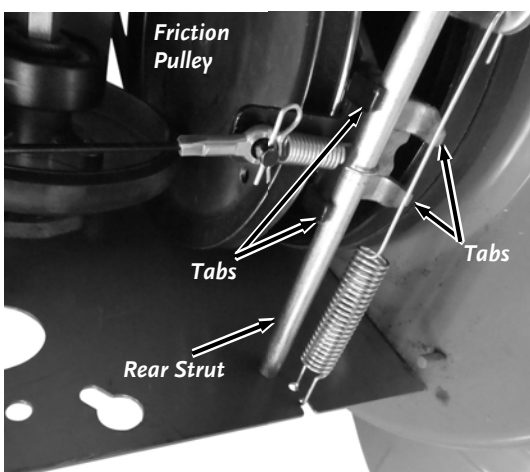
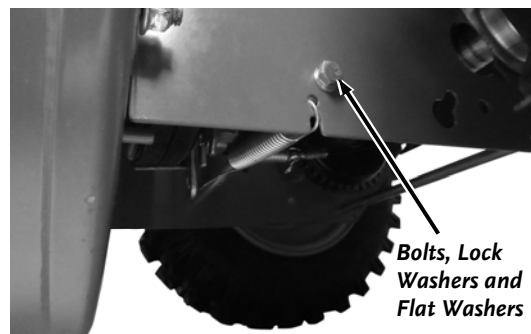

Figure 65
Figure 66
7. Observe how the end tabs of the Friction Disc Bracket are located on both sides of the front Strut (**Figure 65**). It is very important that it is installed this way when reassembled.
8. Remove the Bolts, Lock Washers and Flat Washers that secures the front Strut to the Frame (**Figure 66**). The Friction Disc Bracket will now move out of the way enough for Belt removal.
11. Secure the rear Strut to the Frame (**Figure 66**). Ensure that the Tabs are on both sides of the Strut (**Figure 65**).